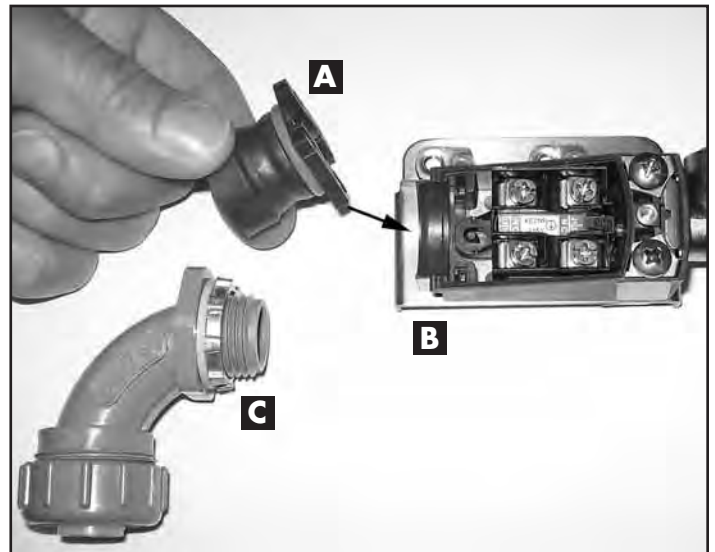

Fig. 6 -
2. Refer to Fig. 6, *Installing the TLS Conduit Adapter*, below.